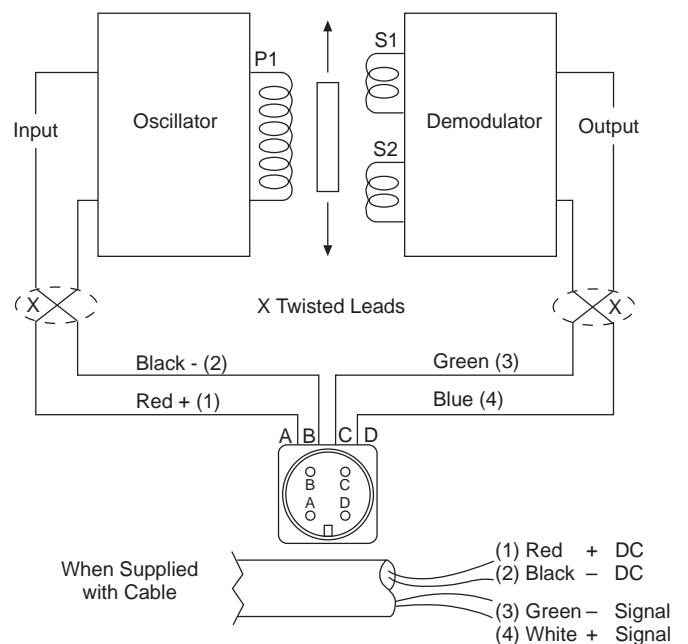

Figure 8
- 3. Observing correct polarity, connect the positive (+) input lead to Pin A and the negative (-) input lead to Pin B. (See Figure 8)
- 4. Connect the positive (+) output lead to Pin D and the negative (-) output lead to Pin C. (See Figure 8)
- 2. Connect a voltmeter to Pins C and D. (See Figure 8)